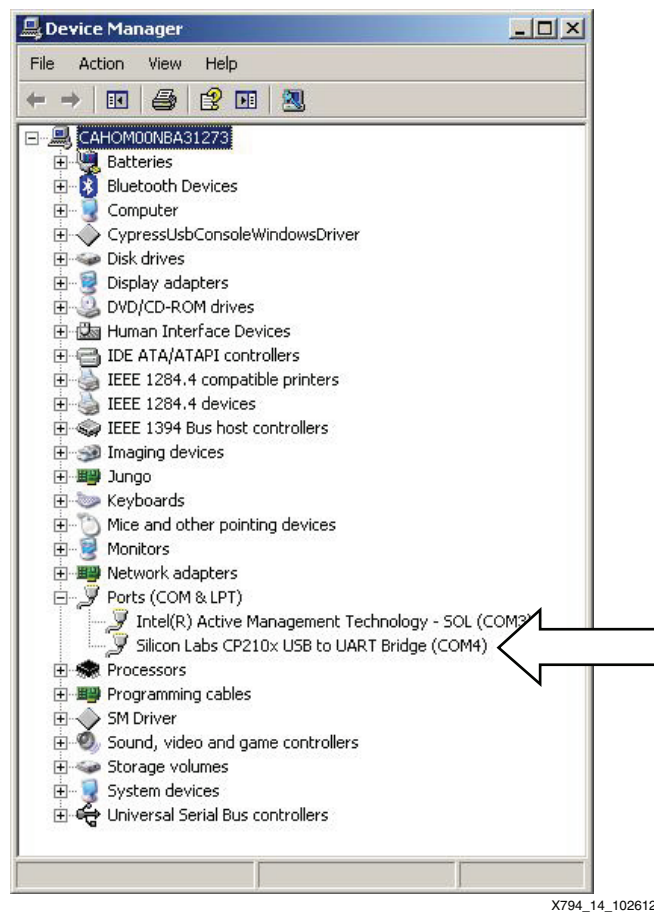

Figure 14: Determining COM Port in Windows
5. Make note of the COM port for the Silicon Labs CP210x USB to UART Bridge item. This is the COM port that must be selected in the serial terminal program (Figure 14).
In the example illustrated in Figure 14, the COM port is COM4. This can be different for each computer.